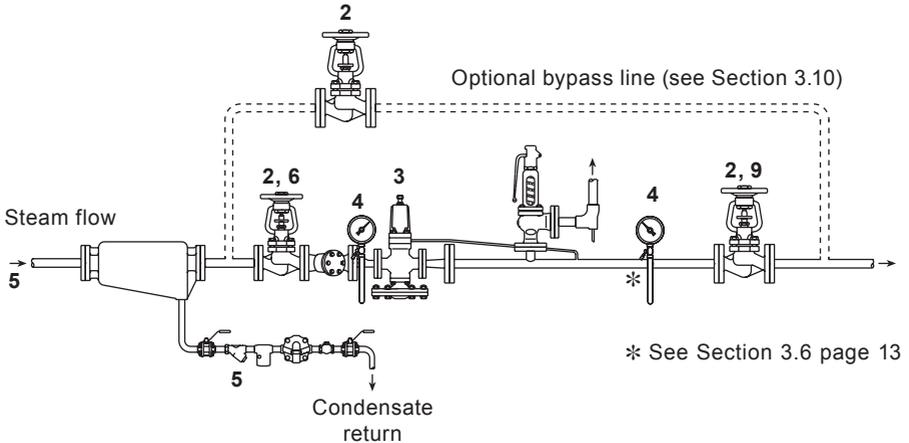
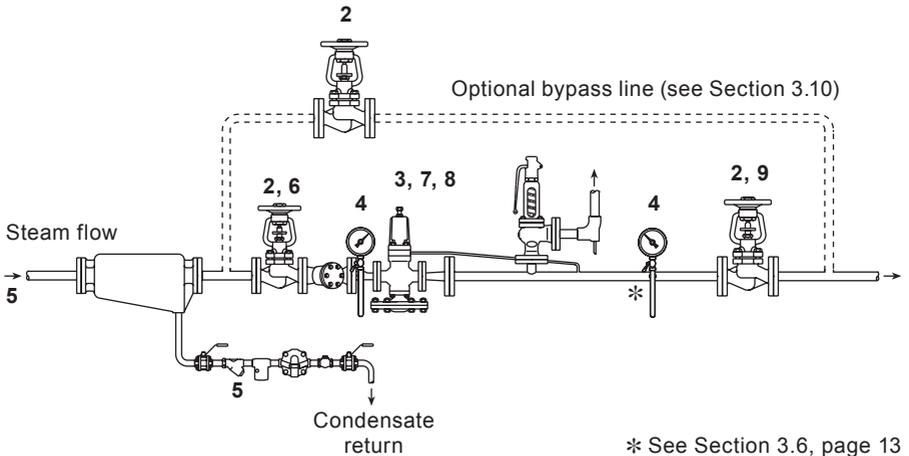

Fig. 8 Setting procedure sequence DP17, DP17E, DP17G, DP17Y and DP27G
Fig. 9 Setting procedure sequence DP17R
The actuating air supply controlled by the regulator should be connected to the union fitting attached to the air control block as in Fig. 4. The air inlet connection is suitable for 6 mm O/D copper tube. The maximum reduced pressure available through the DP17R is 15 bar g (218 psi g). Typical installation is shown in Fig. 9, page 17.
4.1 Setting procedure (Fig. 8 and Fig. 9)
DP17, DP17E, DP17G, DP17Y and DP27G (Fig. 8)
DP17R (Fig. 9)